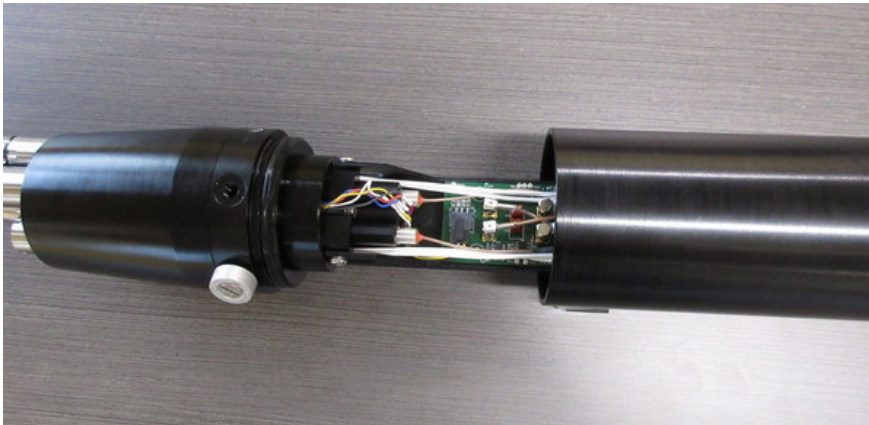

Figure 20: Sliding electronics out of pressure tube
2. Slowly slide the pressure tube past the internal frame (Figure 20), exposing the internal electronics (Figure 8). This step is best completed with two people to prevent damaging the electronics when removing the tube from the front bulkhead.